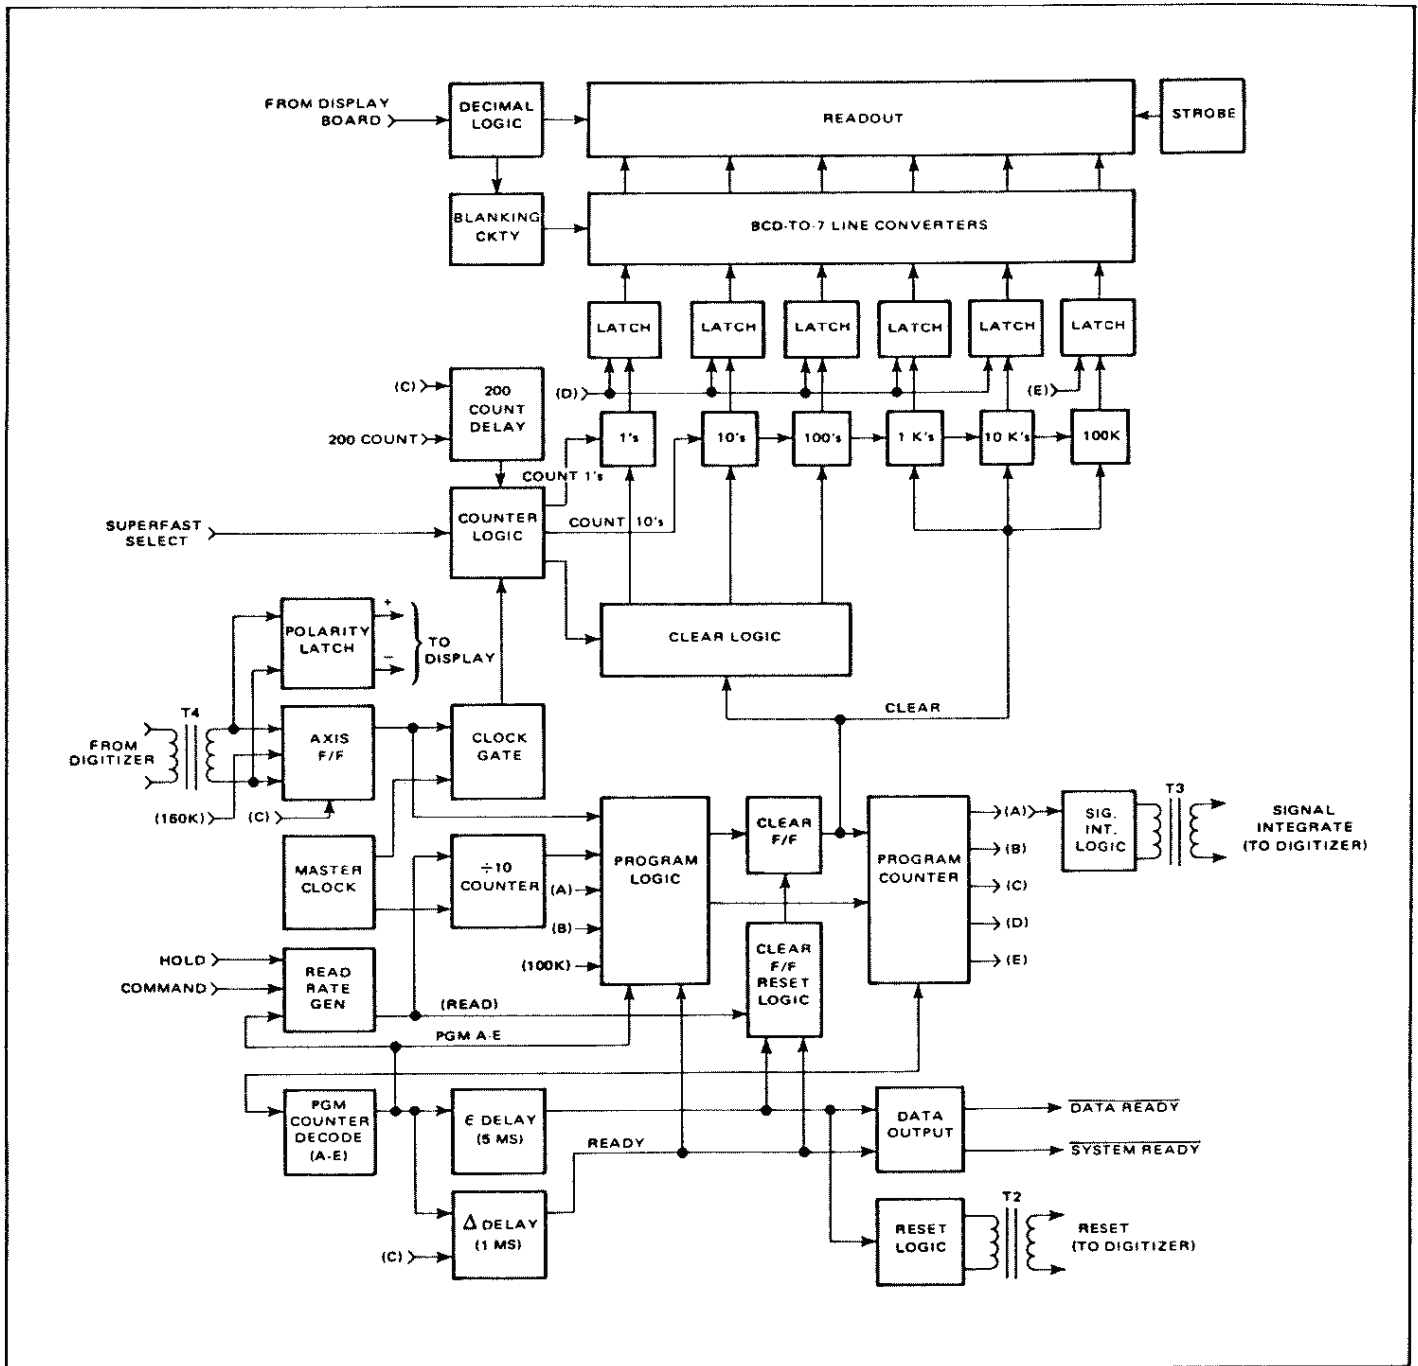

Figure 4.16 - Main Logic & Control Block Diagram
4.69 This circuitry, shown in the block diagram of figure 4.16, is located on the Main Logic board and consists of the control and display logic. In general this circuitry controls all instrument operation including the integration cycle, 'times' the output of the digitizer, and converts this information into data compatible with the Display board.